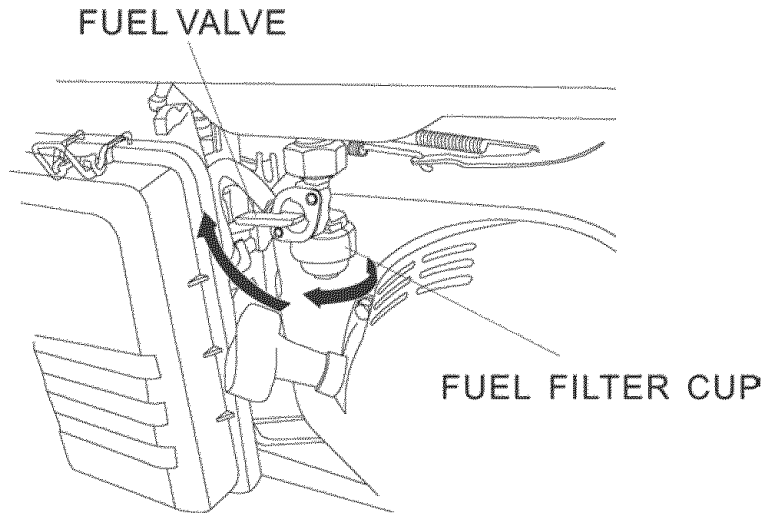

Figure 19- Removing the Fuel Filter Cup
2. Unscrew the fuel filter cup from the fuel valve using a wrench. Turn the valve toward you to unscrew (see figure 19).